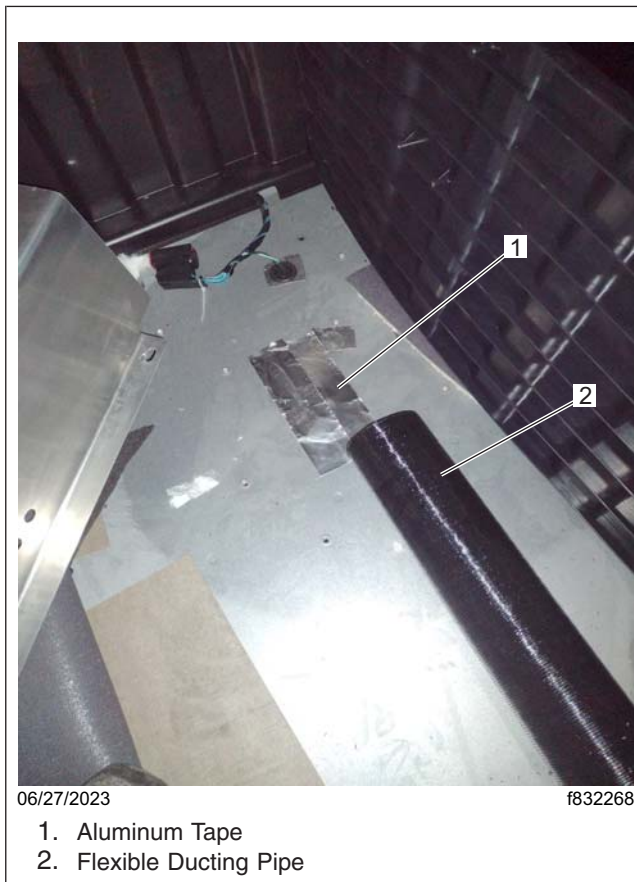

Fig. 21, Aluminum Tape Covering the Floor
5. Remove the aluminum tape covering the floor, as shown in **Fig. 21**. Components of the auxiliary heater assembly pass through the hole. Discard the tape.